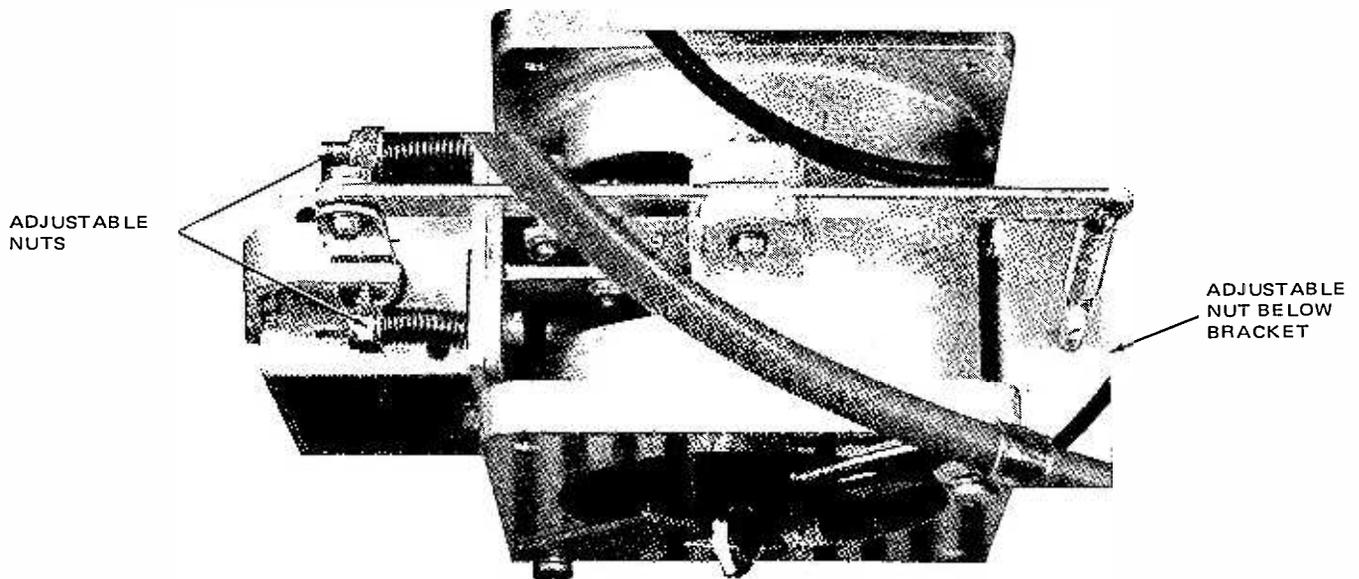

Figure 5-8. Supply Reel Brake Assembly
6. Turn the nuts on either side of the brake solenoid (see Figure 5-8) to adjust the tension, then repeat step 5.